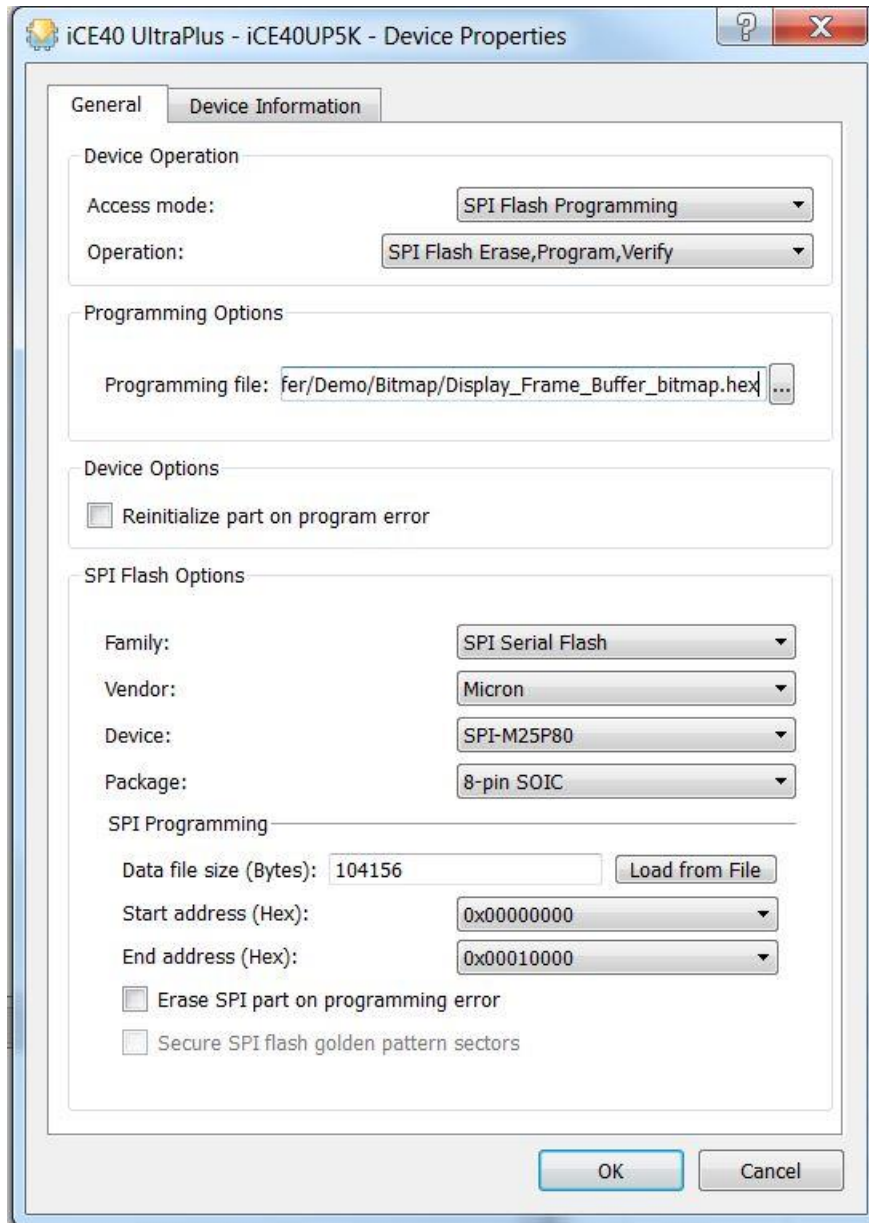

Figure 3.3. Device Properties Dialog Box
11. Double-click under **Operation** to open the Device Properties dialog box as shown in Figure 3.3.